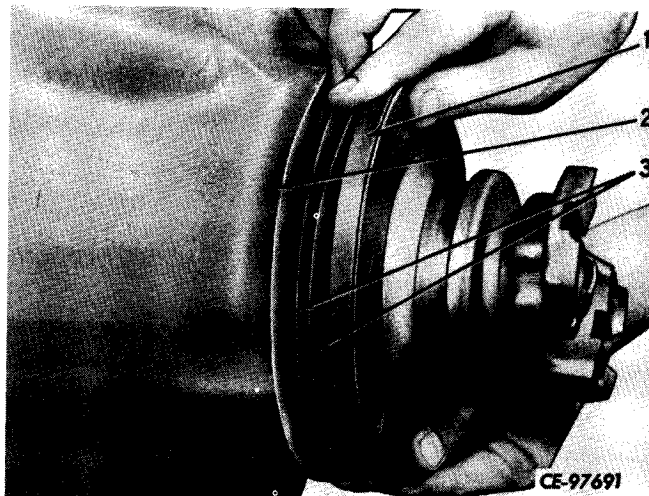

Figure 6-43
Position a shim pack (3, Fig. 6-43) of the same thickness as those removed. Assemble pack with the thinner shims on both sides for maximum sealing ability. Install cage and retainer assembly (1) aligning cap screw holes while tapping with a small mallet. Install cap screws and lock washers. Tighten to recommended torque. Refer to "SPECIAL TORQUES."